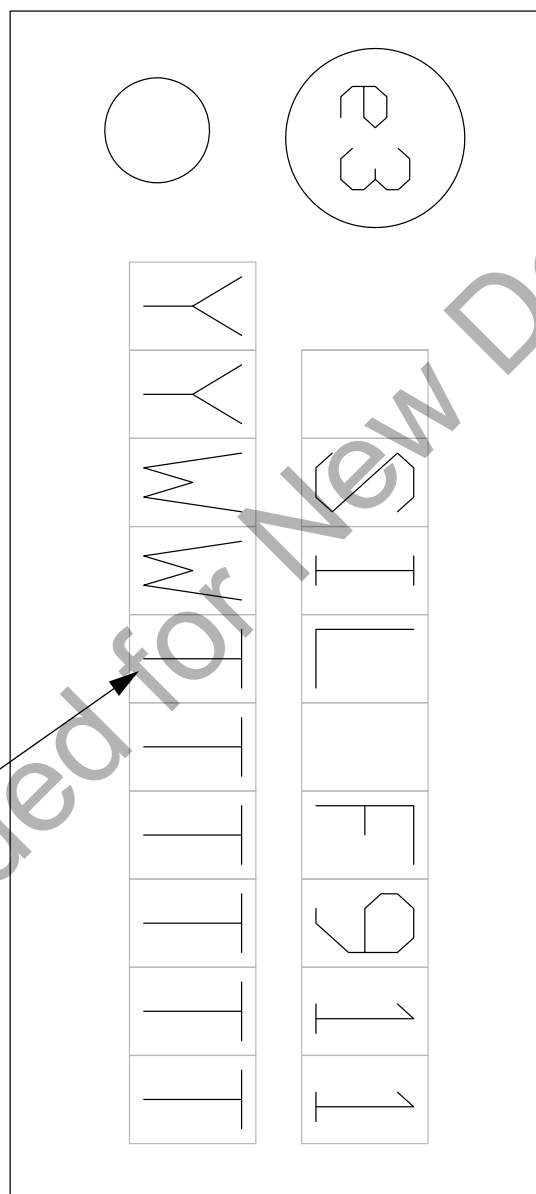

Figure 3.4. QSOP-24 Package Marking Diagram
<ol style="list-style-type: none"> Starting with silicon revision C, the ordering part numbers have been updated to include the silicon revision and use this format: "C8051F912-C-GM". Package marking diagrams are included as Figure 3.3 and Figure 3.4 to help identify the silicon revision. The 'F9xx Plus features are a set of enhancements that allow greater power efficiency and increased functionality. They include 12-bit ADC mode, PWM Enhanced IREF, ultra-low power SmaRTClock LFO, VBAT input voltage from 0.9 to 3.6 V, and VBAT battery low indicator. The 'F9xx Plus features are described in detail in "AN431: F93x-F90x Software Porting Guide."
- Starting with silicon revision C, the ordering part numbers have been updated to include the silicon revision and use this format: "C8051F912-C-GM". Package marking diagrams are included as Figure 3.3 and Figure 3.4 to help identify the silicon revision.